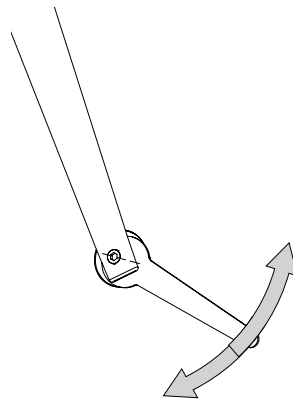

Fig. 16
- Using a 17 mm flat wrench (Fig. 16), adjust the play from the adjustable side of the pivot.